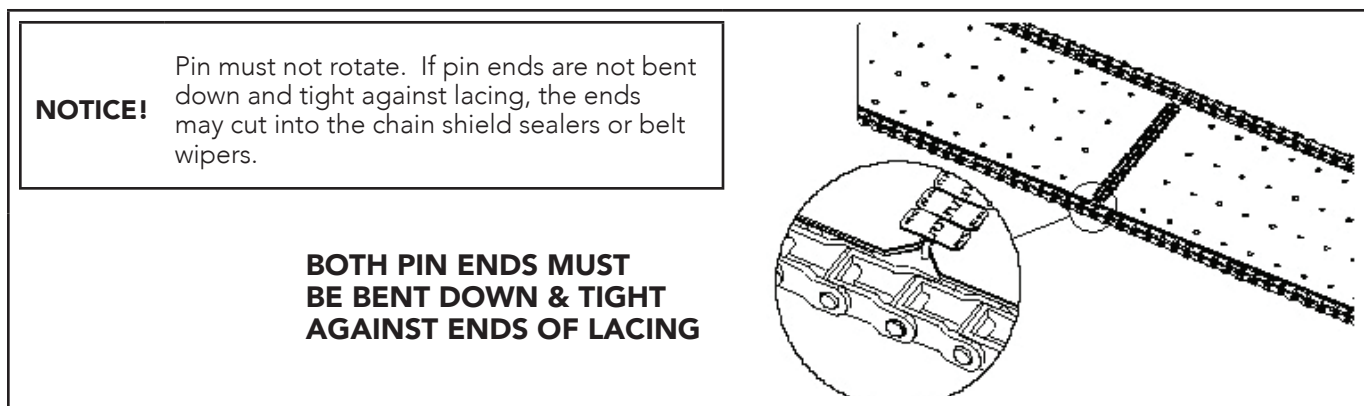

Figure 3 - Conveyor Belt Connecting Pin Installation
- Make sure belt connecting pin is positioned correctly as shown in Figure 3.